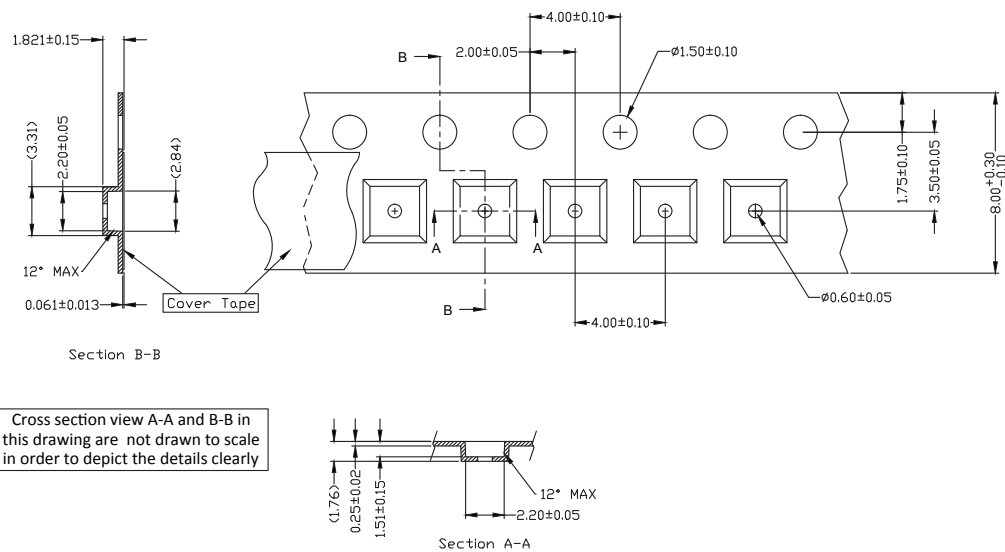

Figure 14. Pocket Tape dimensions for LUXEON C Color Line.
Notes for Figure 14:
- Notes for Figure 14: